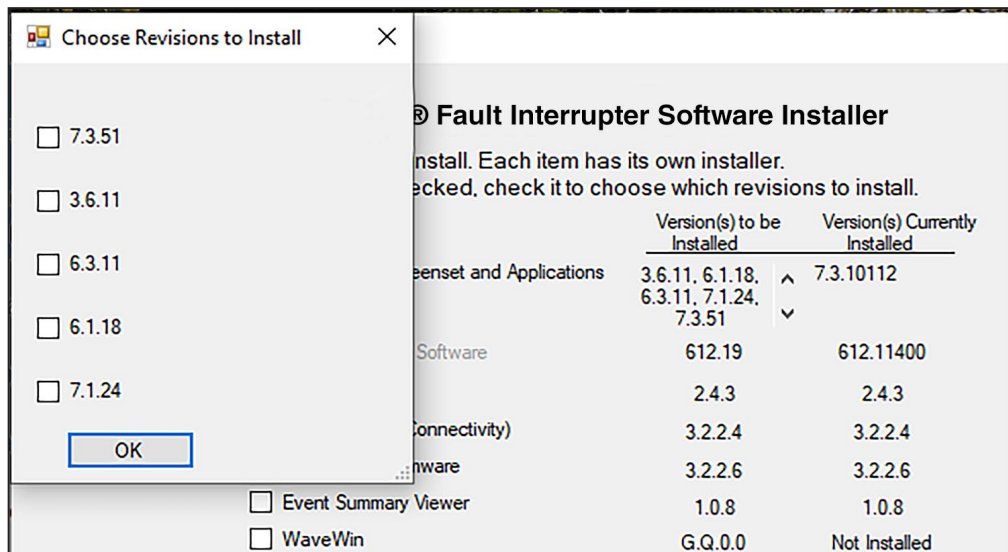

Figure 4. The Choose Revisions to Install dialog box for the IntelliRupter fault interrupter screenset.
STEP 5. When checking the IntelliRupter Screenset and Applications check box, the Choose Revisions to Install dialog box will open and provide a check box for each available screenset that is not already installed on the computer. Check the revisions to install and click on the **OK** button. See Figure 4.